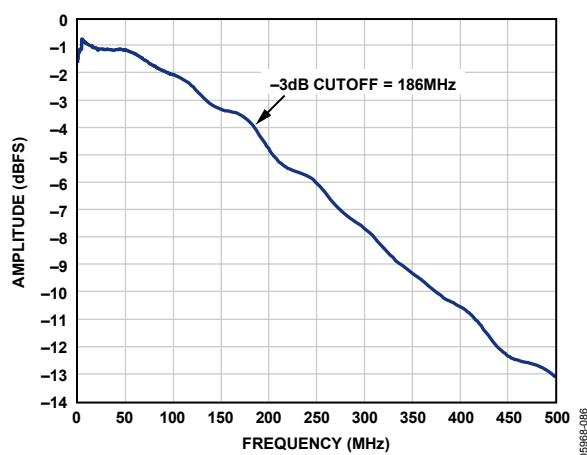

Figure 75. Evaluation Board Full Power Bandwidth
- **AIN:** The evaluation board is set up for a transformer-coupled analog input with optimum 50  $\Omega$  impedance matching out to 150 MHz (see Figure 75). For more bandwidth response, the differential capacitor across the analog inputs can be changed or removed. The common mode of the analog inputs is developed from the center tap of the transformer or AVDD\_DUT/2.